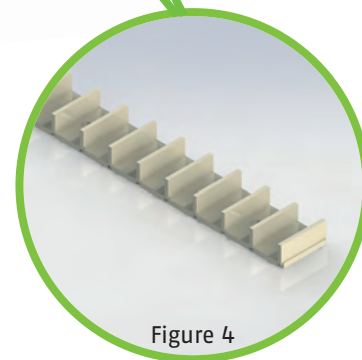

Figure 4
- **2 x chaff-cutter comb** additionally available, (if only one chaff-cutter comb is ordered, it is installed frontally on the hood (Figure 4))